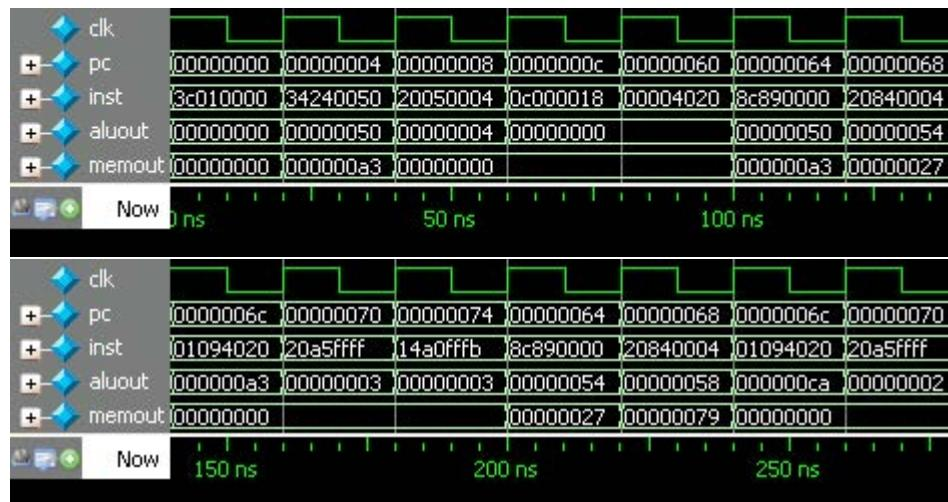

Figure 3 Part of the Waveform of a single-cycle CPU
- The waveforms resulting from the verification of your design. Figure 3 shows the simulation till ~ 275 ns, you need to show the simulation until 1350 ns. The clock period is 20 ns as shown in Figure 3. The memout signal in Figure 3 is the dataout signal in Figure 2.